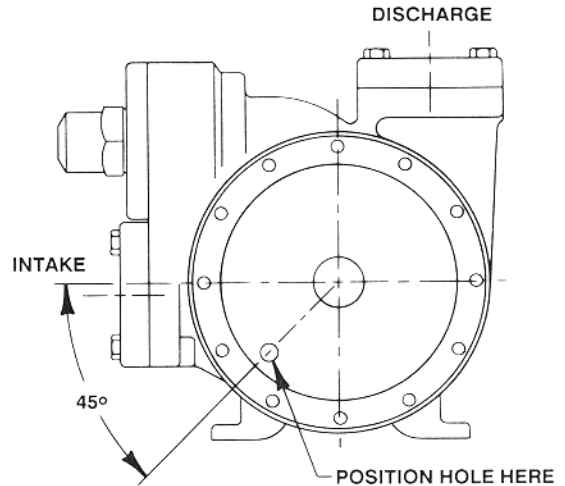

Figure 4 - Disc Relief Hole Location
Install the remaining disc (71) on the inboard side of the pump with the seal cavity facing outward. The disc relief hole should be positioned 45 degrees between the bottom of the pump and the intake port (see Figure 4).